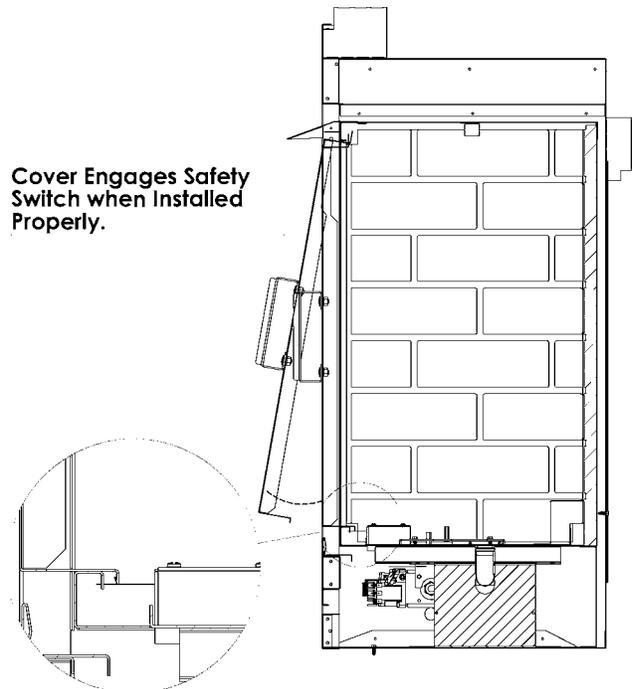

fig.2
3. Slide the Weather Cover up behind the top lip of the firebox. Then Push the bottom of the Weather Cover into the firebox and allow it to drop into place (See **fig.2** below).